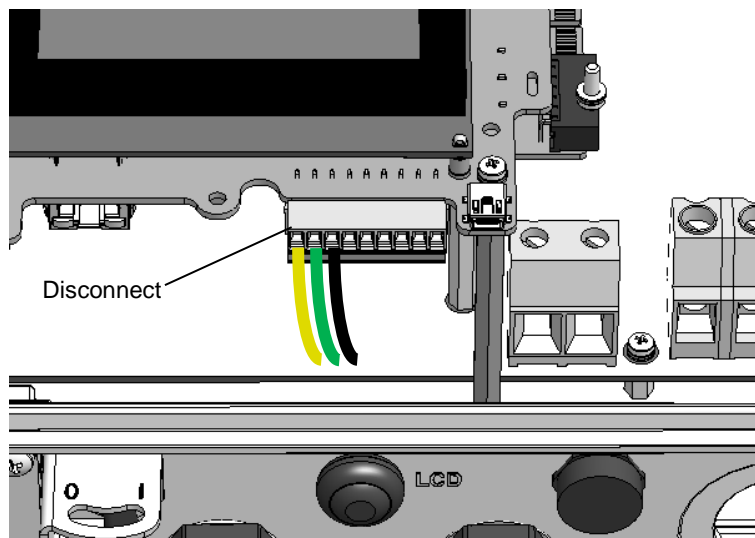

Figure 3: Disconnecting the 9-Pin Connector from an Existing Inverter
- If RS485 connection is already installed in the inverter, disconnect the 9-pin connector from the inverter's communication board (leaving the RS485 wires intact), as shown in Figure 3.